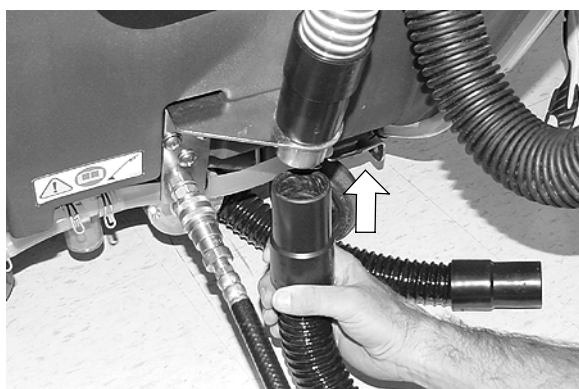

FIG. 16
3. Disconnect the lower vacuum hose from the machine and replace it with the accessory tool's vacuum hose (Figure 16).